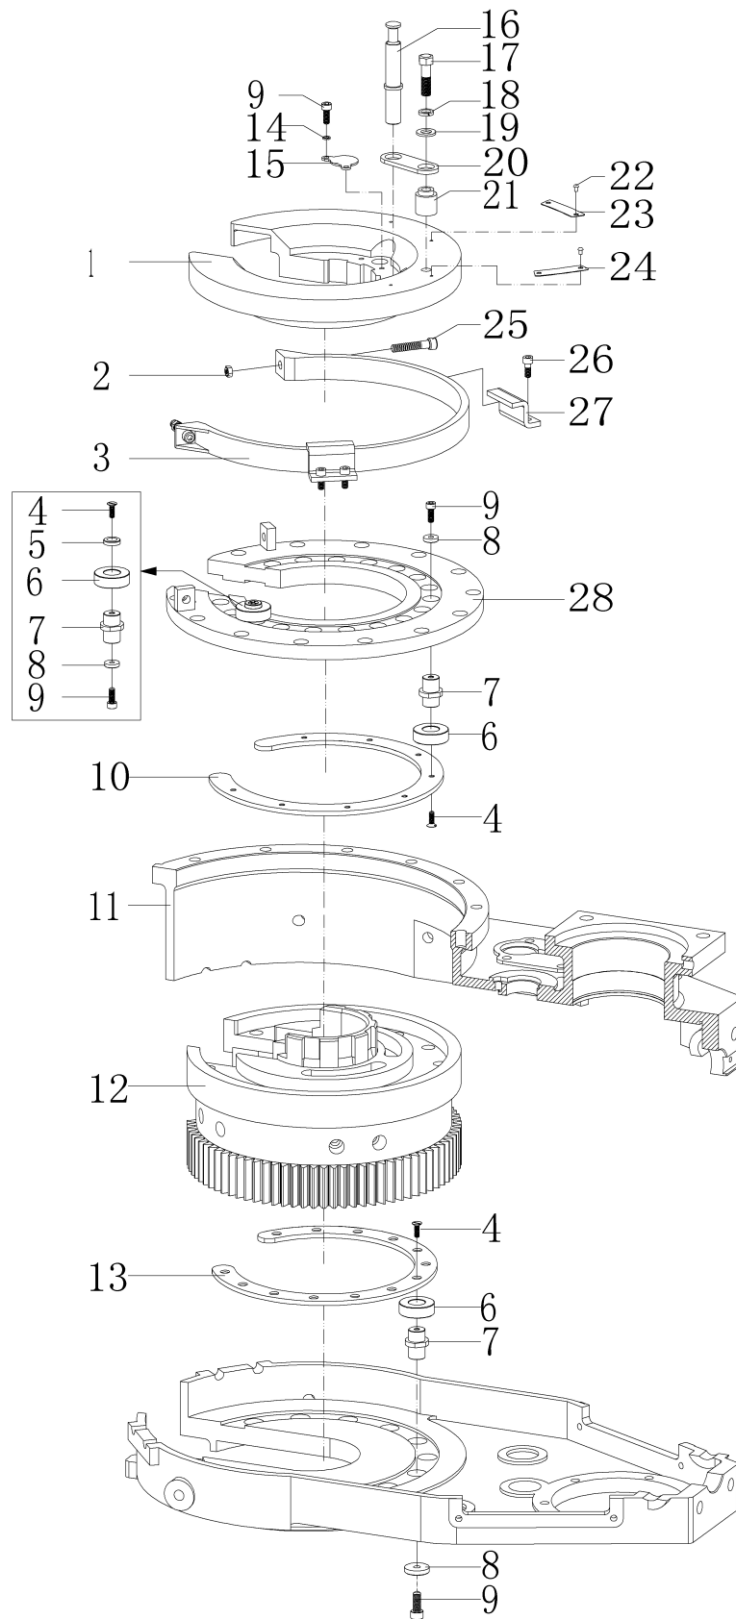

Fig 10
9.6 Backing and centralizing mechanism and parts list(Fig.10,Table 6)